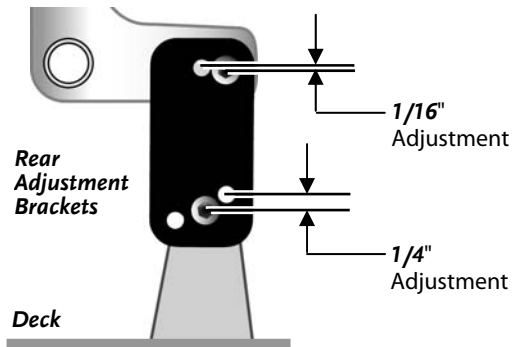

Figure 21
2. Using a 3/16" Allen Wrench and a 1/2" Wrench, adjust the Deck from front to rear as needed by moving the top and/or the bottom Bolt to a different hole in the Rear Adjustment Bracket (**Figure 21**).